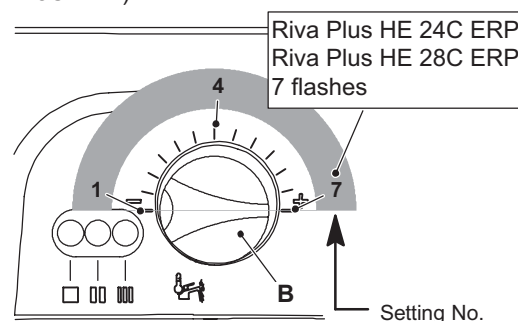

Figure 10.11
At this step it is possible to visualize the current setting by keeping the reset button D pressed for more than 5 seconds. The lamps F will flash a number of times corresponding to the setting Figure 10.11 (seven times for Riva Plus HE 24C ERP and Riva
- 12 To change the setting turn the knob B on a position corresponding to the boiler model (Figure 10.11). By turning the knob B, the lock-out signal lamp E blinks quickly (2 per seconds) indicating that the setting has changed and must be memorised.